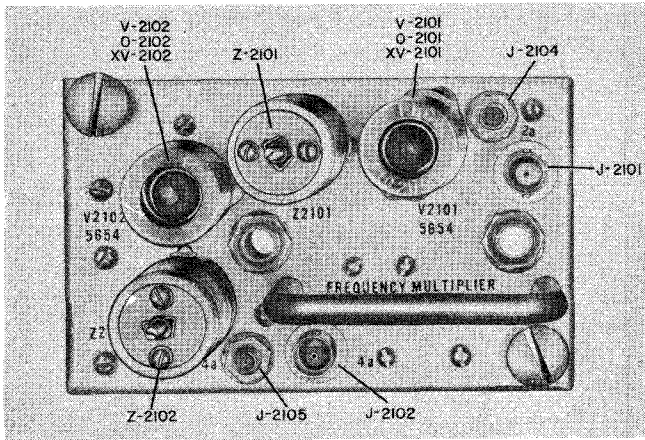

Figure 7-23. RFO, Unit 4 (Z-2103), Top View
(1) ELECTRICAL ADJUSTMENTS.—The four adjustments that may be made on unit 4 are the top and bottom slugs of Z-2101 and Z-2102 (figures 7-23 and 7-24).